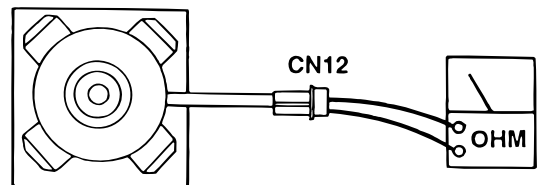

Figure 7-28. Motor Connector CN12
1. Using an ohmmeter R x 1 scale, measure the resistance between the two pins of CN12. See figure 7-28.